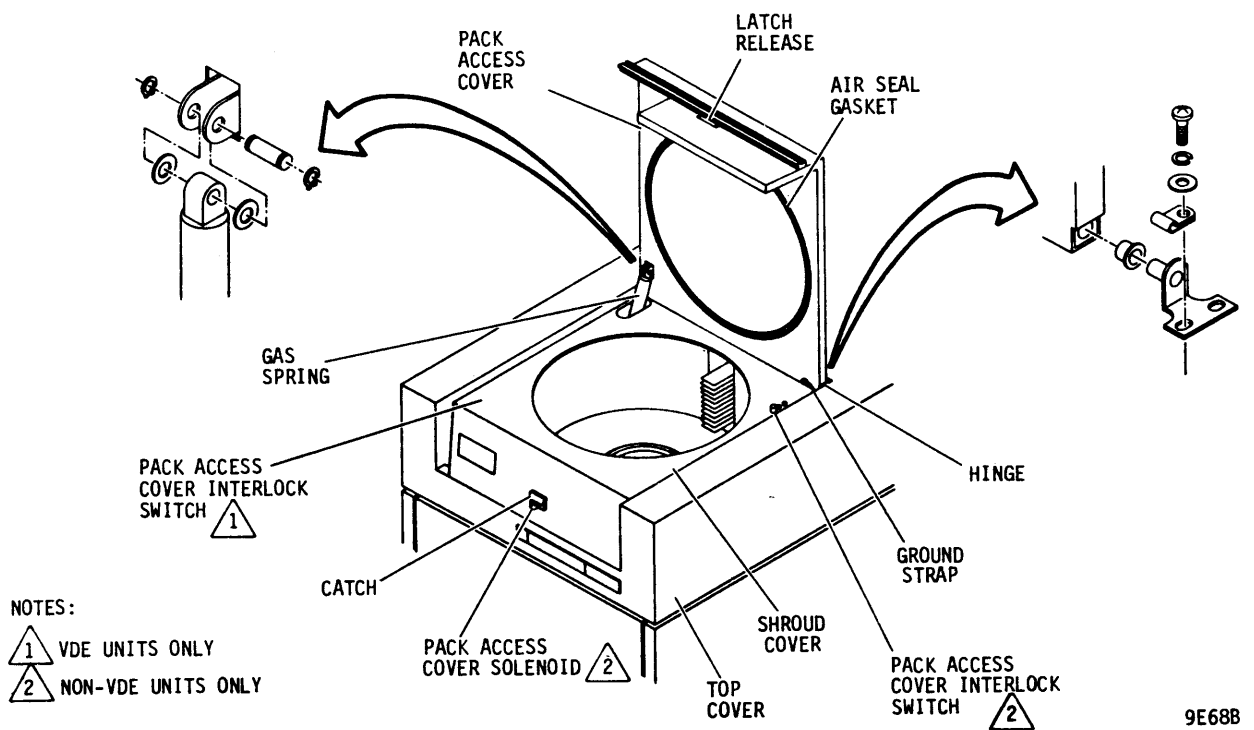

Figure 2-8. Pack Access Cover
Raising the pack access cover allows access to the disk pack and shroud area of the drive. Once opened, the cover is held in place by a gas spring (refer to figure 2-8). A solenoid, located on the front of the shroud cover, prevents accidental opening of the pack access cover while the drive is in use or when the drive is completely powered down. In fact, the only time the cover can be opened (without overriding the solenoid) is when the MAIN AC circuit breaker is ON (providing all other
2. Secure gas spring to pack access cover using pin, nylon spacers, and C clip (refer to figure 2-8).